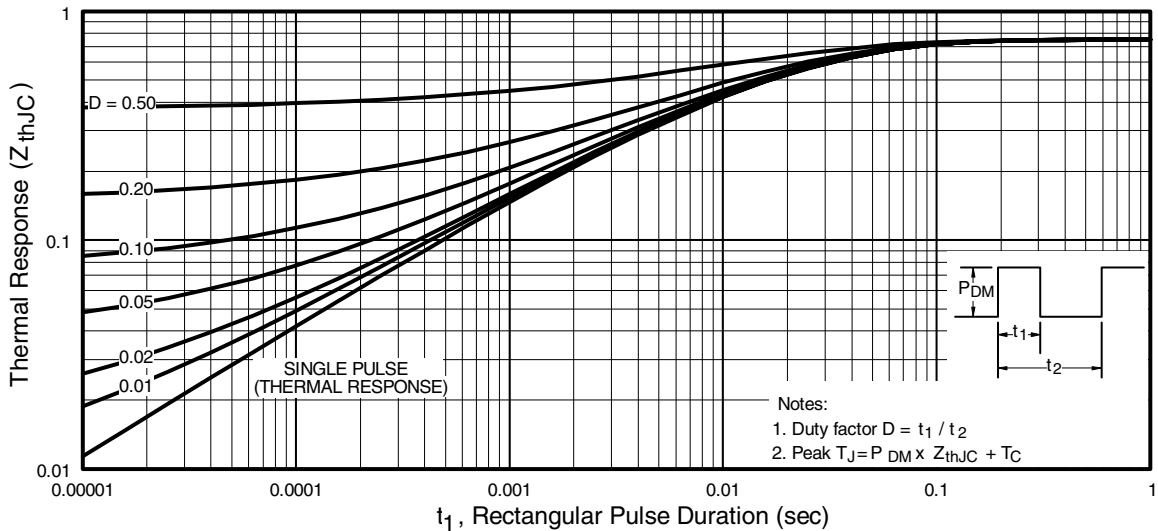

Fig 11. Maximum Effective Transient Thermal Impedance, Junction-to-Case
- ① Repetitive rating; pulse width limited by max. junction temperature. (See fig. 11)
- ② $V_{DD} = 15V$, starting $T_J = 25^\circ\text{C}$, $L = 180\mu\text{H}$